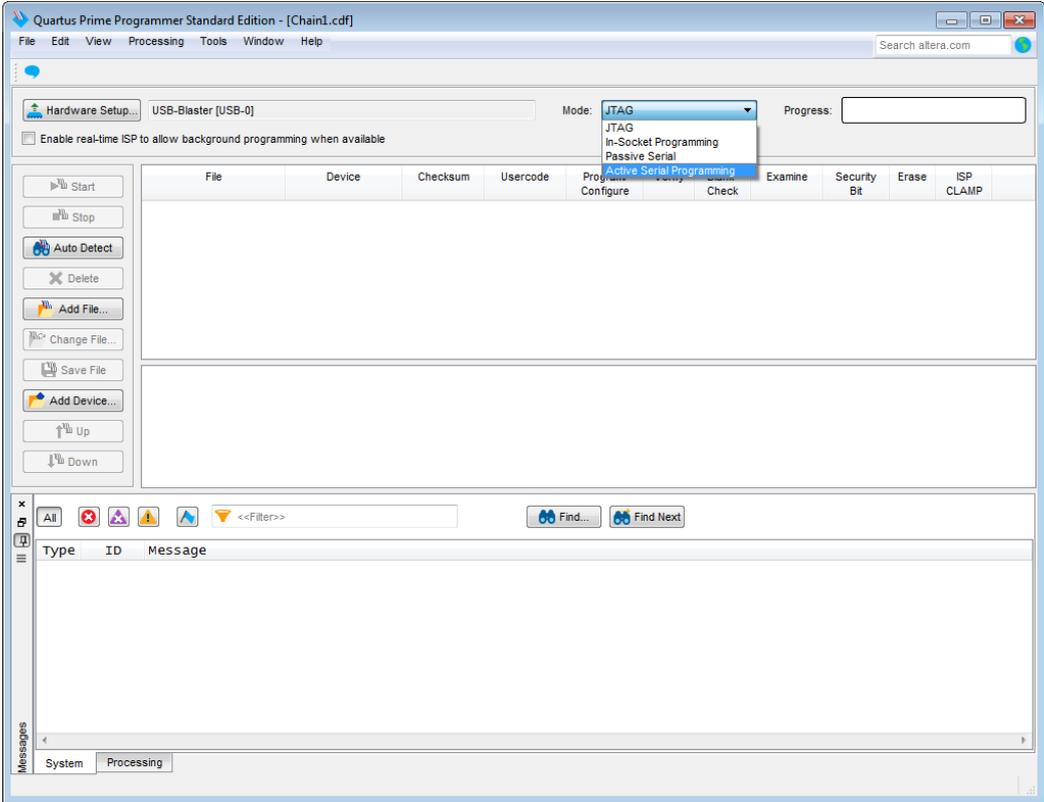

Figure 3 : Quartus – Choosing Programming mode
- 2. Choose “Active Serial Programming” from the Programming “Mode” Selecting bar, as shown in Figure 3.